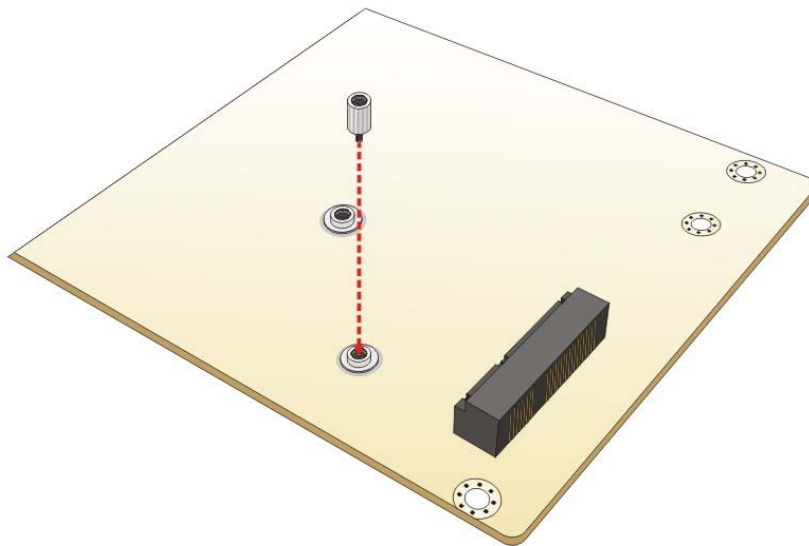

Figure 4-6: Installing the Standoff
Step 3: Install the previously removed standoff to the screw hole for the half-size PCIe Mini card (**Figure 4-6**).